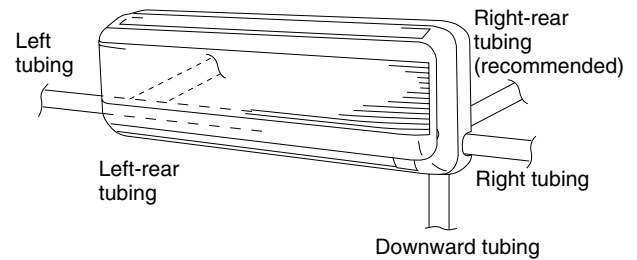

**Fig. 3-76**
- (2) Press the 2 △ marks on the frame cover and disengage the stationary tabs from the frame. (Fig. 3-76)
- (3) Remove the rear panel.